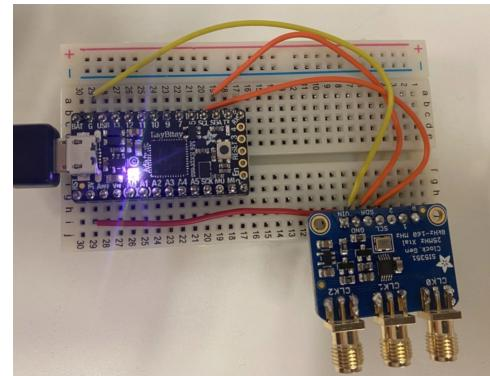

Fig. 1. ItsyBitsy, Si5351A, and breadboard connected using appropriate ports, as described in the documentation.
- 4) Connected appropriate pins between ItsyBitsy and Si5351A using jumper cables. (Correct pins can be seen in Fig. 1. and **Table 1**.)